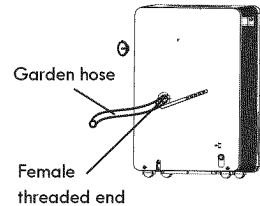

Figure 12
- Screw the female threaded end of the garden hose into the adaptor A (See Fig.12). Lead the hose to a floor drain.